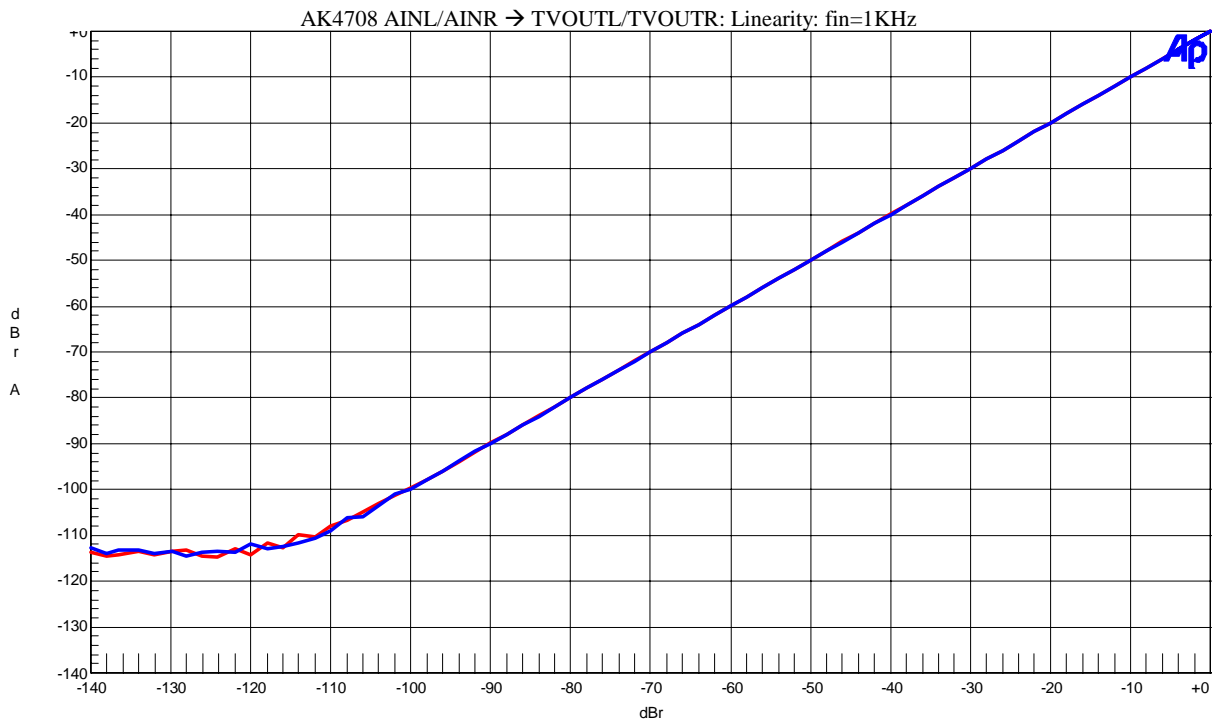

Figure1-6. Linearity (fin=1kHz)
- Figure 1-6. Linearity (fin=1kHz)